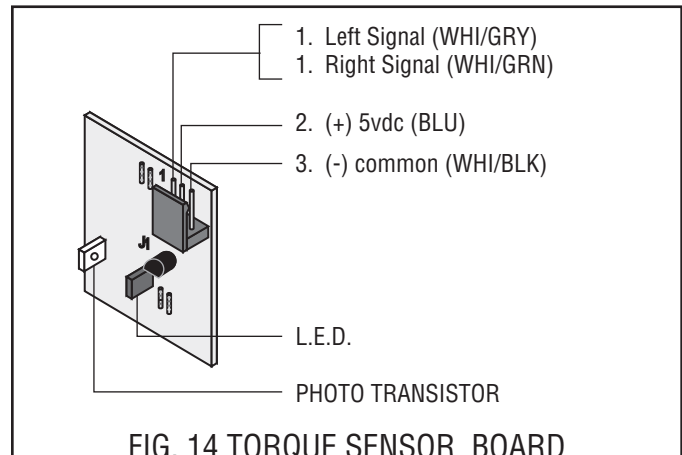

FIG. 14 TORQUE SENSOR BOARD
2. Using a strip of paper, momentarily block the light path between red LED and white photo transistor. If the meter displays 5vdc when blocked and 0v when unblocked, then the Torque Sensor is good. If there is no 5vdc reading, verify that both red and white sensors are clean. See FIG. 14.